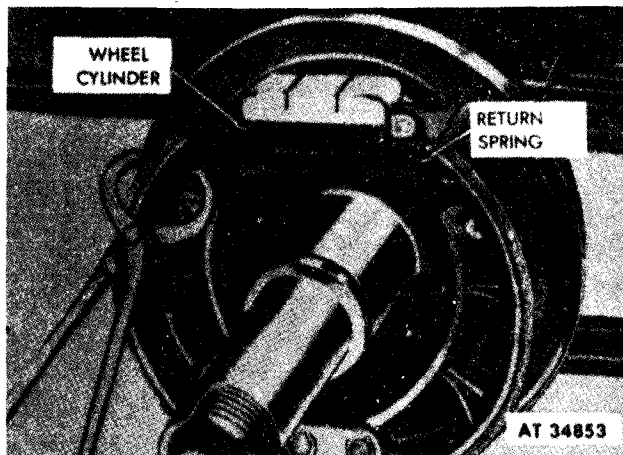

Figure 2-185. Removing brakeshoe return spring.
(4) Unhook the return spring (fig. 2-185) from one of the brakeshoes.
(5) Remove the two wheel cylinder capscrews (fig. 2-178) and lockwashers from the back side of the backing plate assembly, and remove the wheel cylinder (fig. 2-185) with its cover from the front side of the backing plate.
(1) Position the wheel cylinder (fig. 2-185) with its cover on the front side of the backing plate assembly, install the two wheel cylinder capscrews (fig. 2-178) with lockwashers in the holes at the back side of the backing plate, and tighten the capscrews.
(2) Install the return spring (fig. 2-185) between the brakeshoes.
(1) Remove the wheel and tire assembly (para 2-207).
(2) Remove the hub and drum assembly (para 2-210).
(3) Install the clamp over the ends of the wheel cylinder to hold the wheel cylinder pistons in position.
(4) Unhook the return spring (fig.2-185) from both brakeshoes.
(6) Install the return spring (fig. 2-185) between the brakeshoes, and remove the clamp from the ends of the wheel cylinder.
(7) Install the hub and drum assembly (para 2-210).
(8) Bleed the wheel cylinder (para 2-190a).
(9) Adjust the brakes, using major adjustment procedures (para 2-189a(3)).
(10) Install wheel and tire assembly (para 2-207).